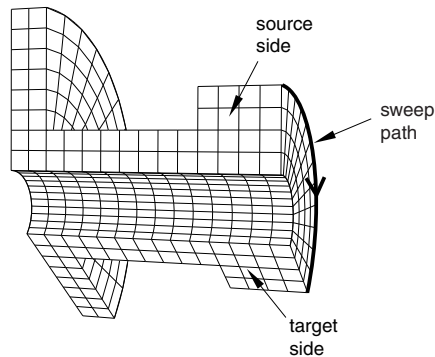

Figure 17–69 The revolved swept meshing technique sweeps the mesh on the source side along a circular edge.
- Every side that connects the source side to the target side must have only a single face or be comprised of four-sided combined faces that form a regular grid pattern. Figure 17–70 provides two examples of acceptable connecting face patterns.